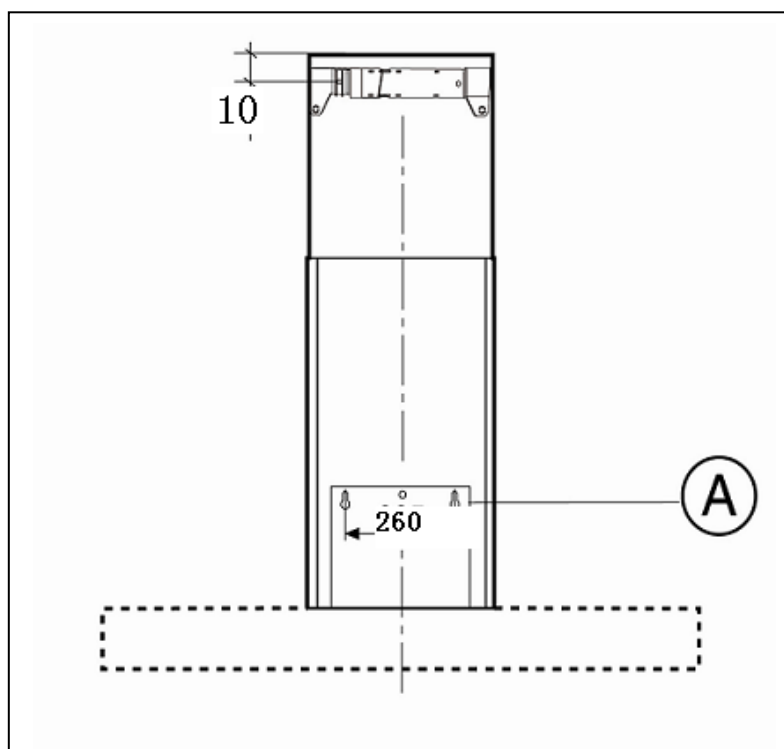

Fig 2
Step 2: To install, drill the holes at the distance indicated (Fig2) in a level line, at the desired height. Insert the screws into the holes and fasten securely to the wall ensuring that the screws fix into material that has sufficient load capacity to hold the weight of the canopy.